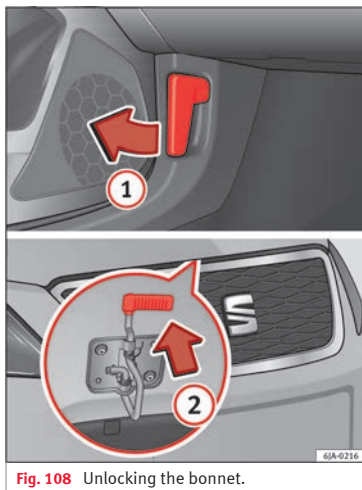

Fig. 108 Unlocking the bonnet.
- Pull the lever (1) » Fig. 108 under the dash panel in the direction indicated by the arrow.
- Pull the release catch in the direction of the arrow (2) » Fig. 108 and the bonnet will be released.